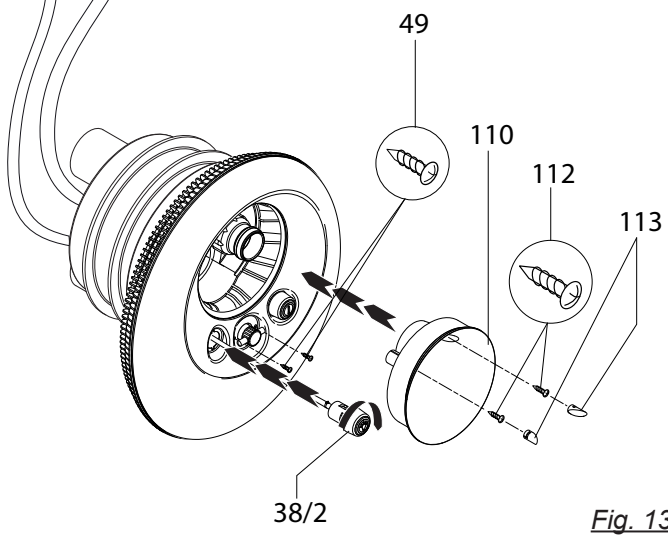

Fig. 13
- 9) Place the stainless steel trim (93) on the suction housing and fasten to the nozzle housing using the two screws (49). **Tighten the self-tapping screws to just hand tight. Do not use force!** Insert the two pneumatic buttons through the trim in the nozzle housing and turn clockwise to lock. (Fig. 13)
- 10) Attaching the light cover (110) also fastens the stainless steel trim (93).
To do this, place the light cover (110) over the bullet nozzle and into the nozzle housing and fasten using the two screws (112). **Tighten the self-tapping screws to just hand tight. Do not use force!** (Fig. 13)